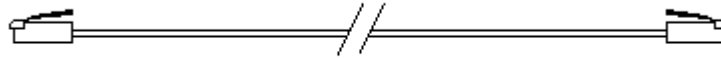
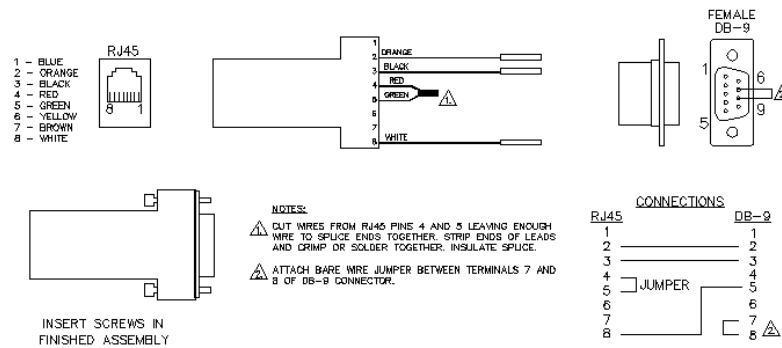

Figure 18 – 400110 Serial Interface Cable
Figure 19 - 401135 Modular Adapter
- Locate the ATG interface cable (P/N 401136) and the Modular Adapter (P/N 401135). One of each should have been supplied with the LLD-Plus system. Refer to Figure 18 and Figure 19.